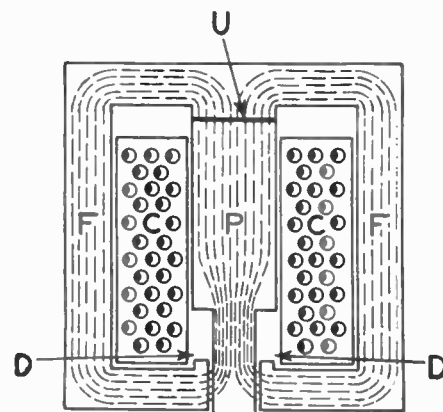

Fig. 5.—Effect of a weak current with resulting weak field force on the solenoid, and raising the armature.
A loud speaker was connected to the lamp as shown in Fig. 5, and reproduced the singing note with great intensity. On touching the free terminal (T) with the finger, the intensity was greatly increased, due to the capacity of the body. The negative side of the filament in all of these experiments was grounded. A variable condenser was connected between the negative side of the filament and terminal (T) and the result was the same as when touching (T) with the finger. On shorting the condenser there was no change in the singing note. A battery connected between the negative side of the filament and terminal (T), with the negative side of the battery connected to terminal (T), increased the intensity of the singing note slightly. A large permanent magnet held in the vicinity of the lamp modified the singing note considerably.
have also decreased. This time the lines of force are few enough for all of them practically to pass through the narrow portion of the plunger without passing through the air gaps (DD). Since there are practically no lines of force through the air gaps (DD), there is practically no downward pull on the plunger, but there is still a heavy upward pull on the plunger. The plunger is therefore now pulled up to its new position shown in Figure 5.
If the current now decreases still further, the new state of affairs will be as depicted in Figure 5. Since the current in the coils has decreased, the lines of force